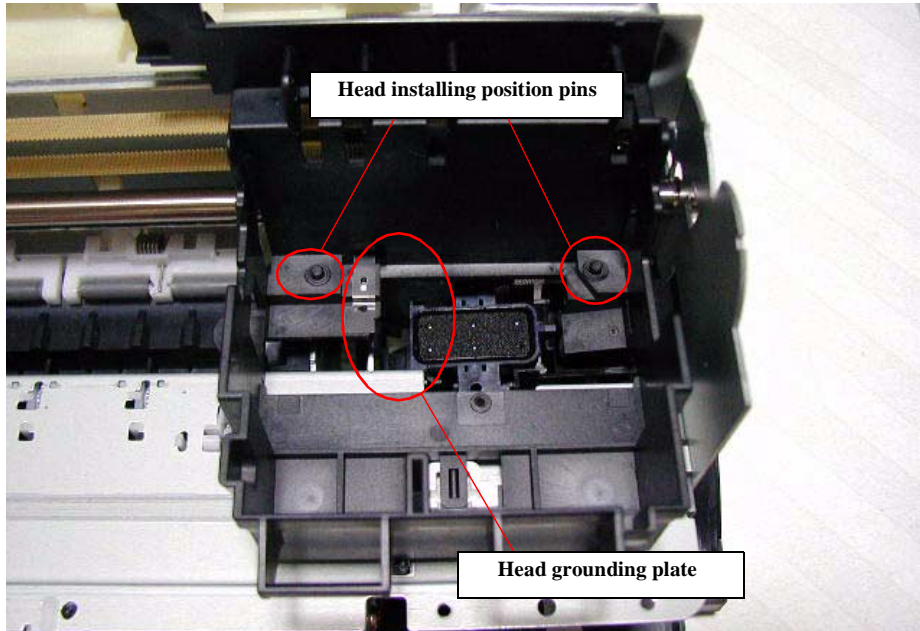

Figure 4-9.
- Make sure that the Head Grounding Plate is installed to the carriage correctly. Refer to Figure 4-9.
- Make sure that two holes of the Printhead correctly fit in the installing position pins. Figure 4-9.